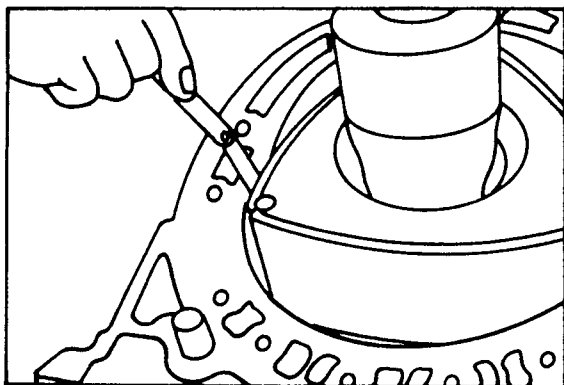
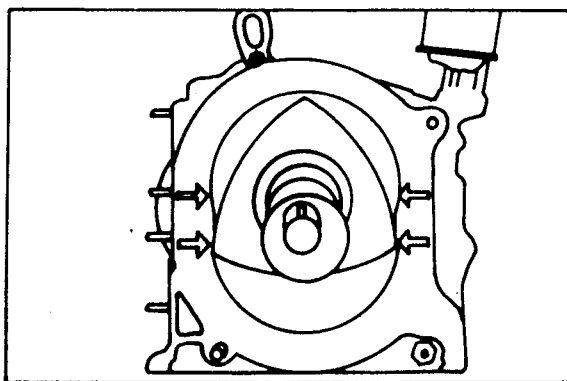

Figure 7
Figure 8
- (1) Install outer oil seals and springs in one side of the rotor. This will prevent the rotor contacting and thus scuffing the side housing as you rotate it for measurement.
- (2) Invert the rotor and insert it in the rotor housing. The springs will hold the oil seals in place.
- (3) Measure ΔF with a feeler gauge, as shown in Figure 7. There are four measuring points, two on each side, at 25 mm above and below the horizontal centerline, as shown in Figure 8.